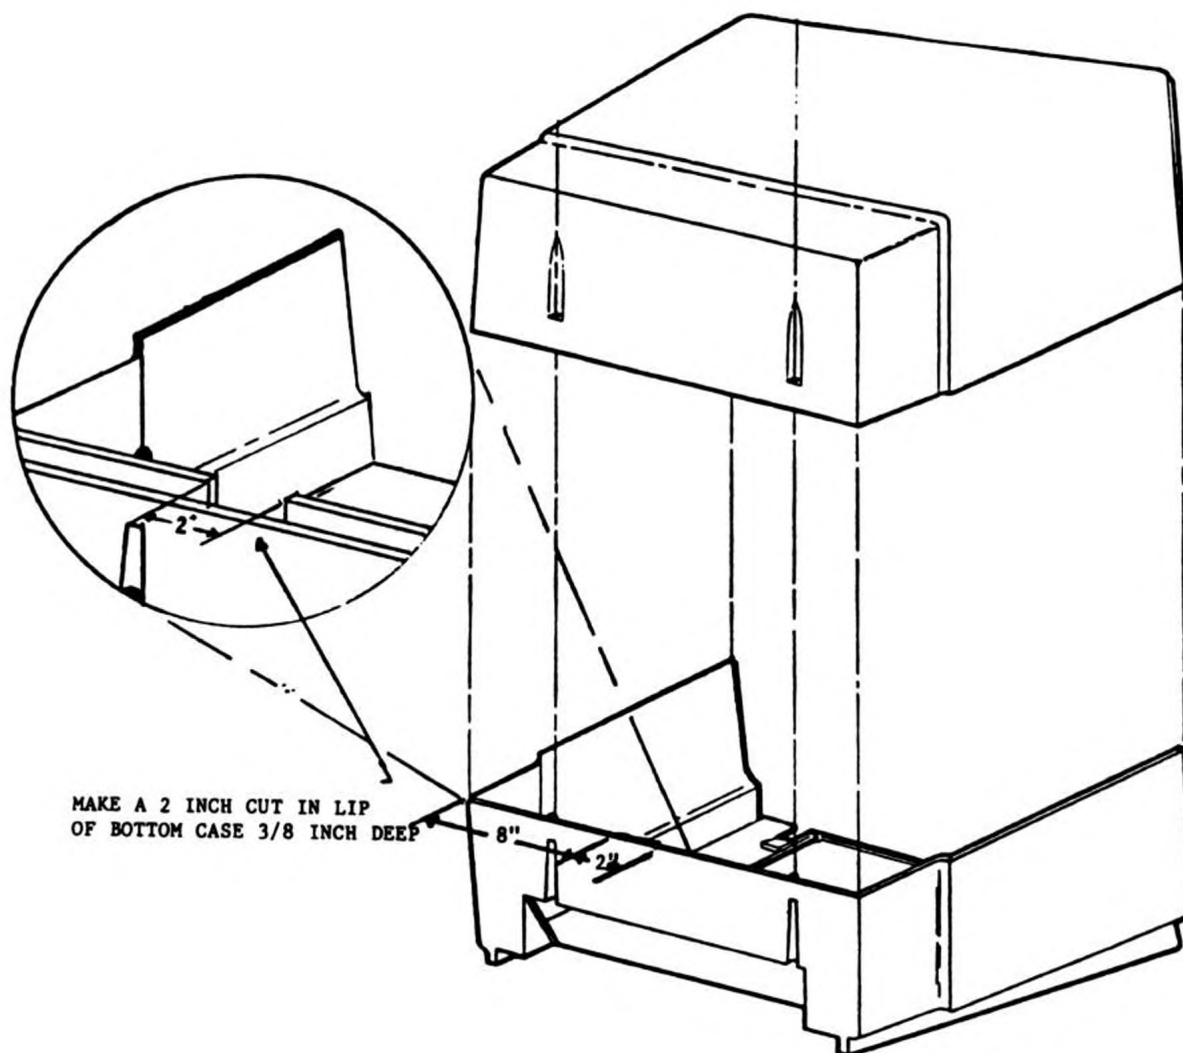

Figure 1.
2. (Refer to figure 1.) Measure 8" inches from left side (drive side) make a 3/8" inch deep cut, then measure 2" inches from first cut, and make another 3/8" inch deep cut. Cut away the two inches of plastic between the cuts. Clean the notch and make it smooth as possible.
3. Install Multi-terminal Interface board in #4 slot of card cage (count from the Z-80 CPU board to the left.) The proper slot positions should be filled as follows: (1) Z-80 CPU Board (2) FDC Board (3) Hard Drive Interface Board (4) Multi-terminal Interface Board (5) Video Board (6) 64K Memory Board (7) 68000 CPU Board (8) 16-Bit Memory Board, reading from right to left as you are facing the rear of unit looking at the card cage. If there is a board in #4 slot move all boards to the left leaving the #4 slot open for the multi-terminal board.